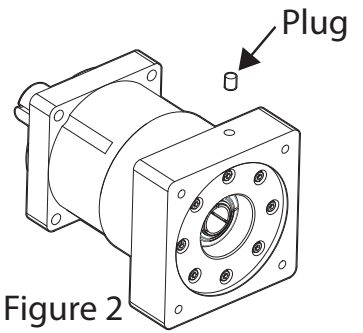

Figure 2
- 1) Remove access hole plug from the motor adapter (if provided, see Figure 2).